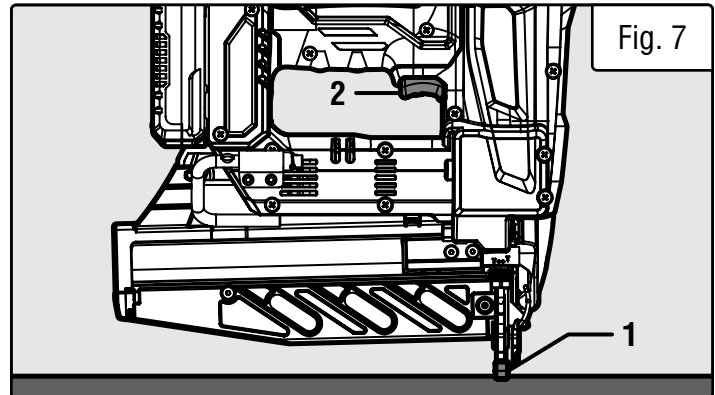

Fig. 7
4. Hold the nailer upright on the workpiece and position the no-mar tip (Fig. 7 - 1) where the fastener will be driven.
5. Carefully press down and pull the trigger (Fig. 7 - 2) to drive a fastener.